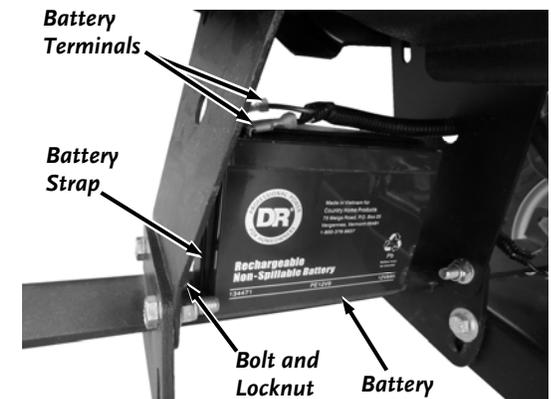

Figure 39
1. Disconnect the Battery Terminals (**Figure 39**).